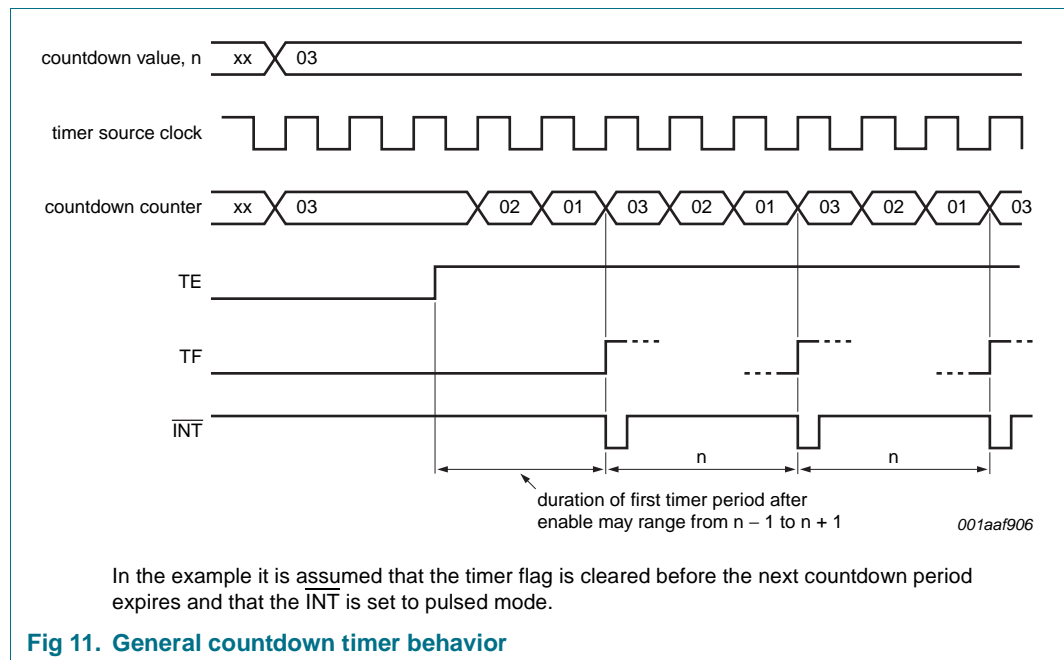

Fig 11. General countdown timer behavior
The timer counts down from a software-loaded 8-bit binary value, n. Loading the counter with 0 effectively stops the timer. Values from 1 to 255 are valid. When the counter reaches 1, the countdown Timer Flag (TF) will be set and the counter automatically re-loads and starts the next timer period. Reading the timer will return the current value of the countdown counter (see Figure 11).